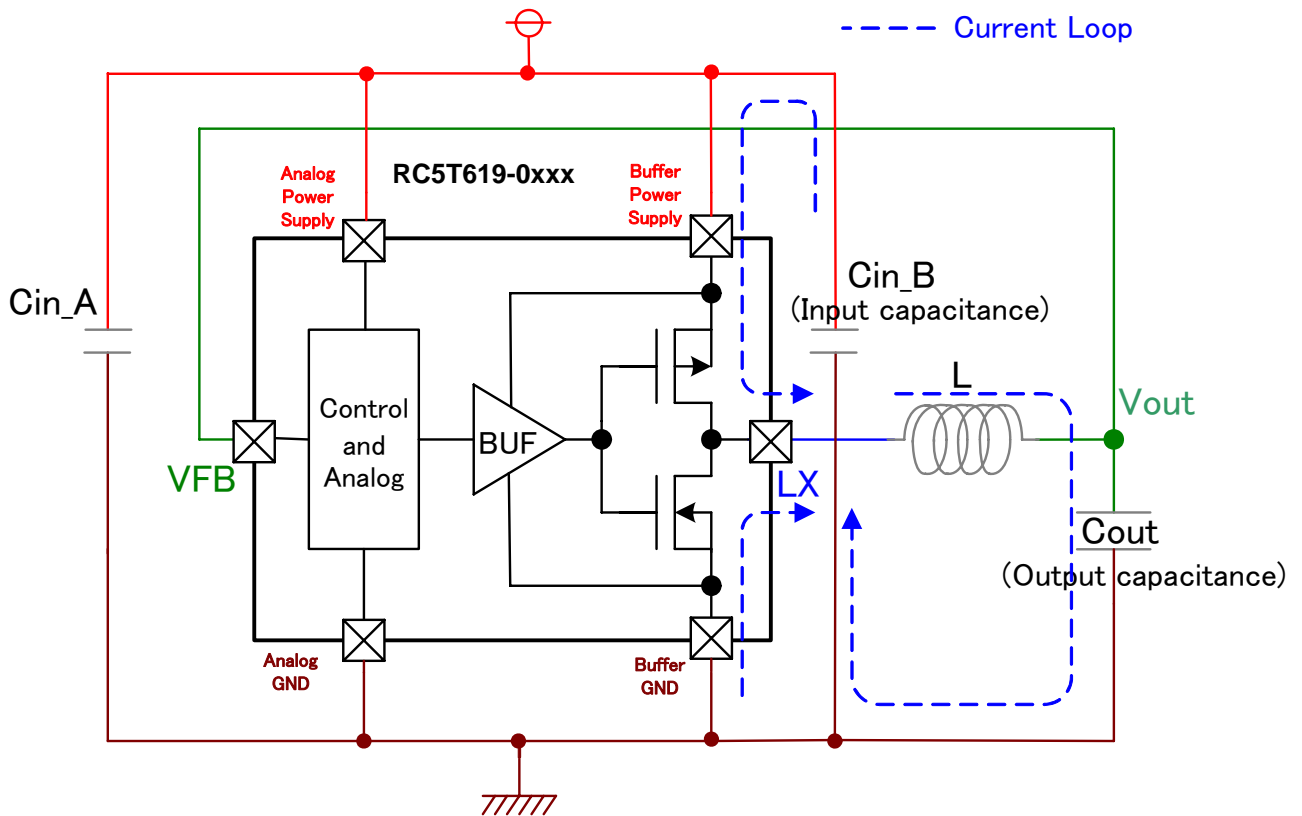
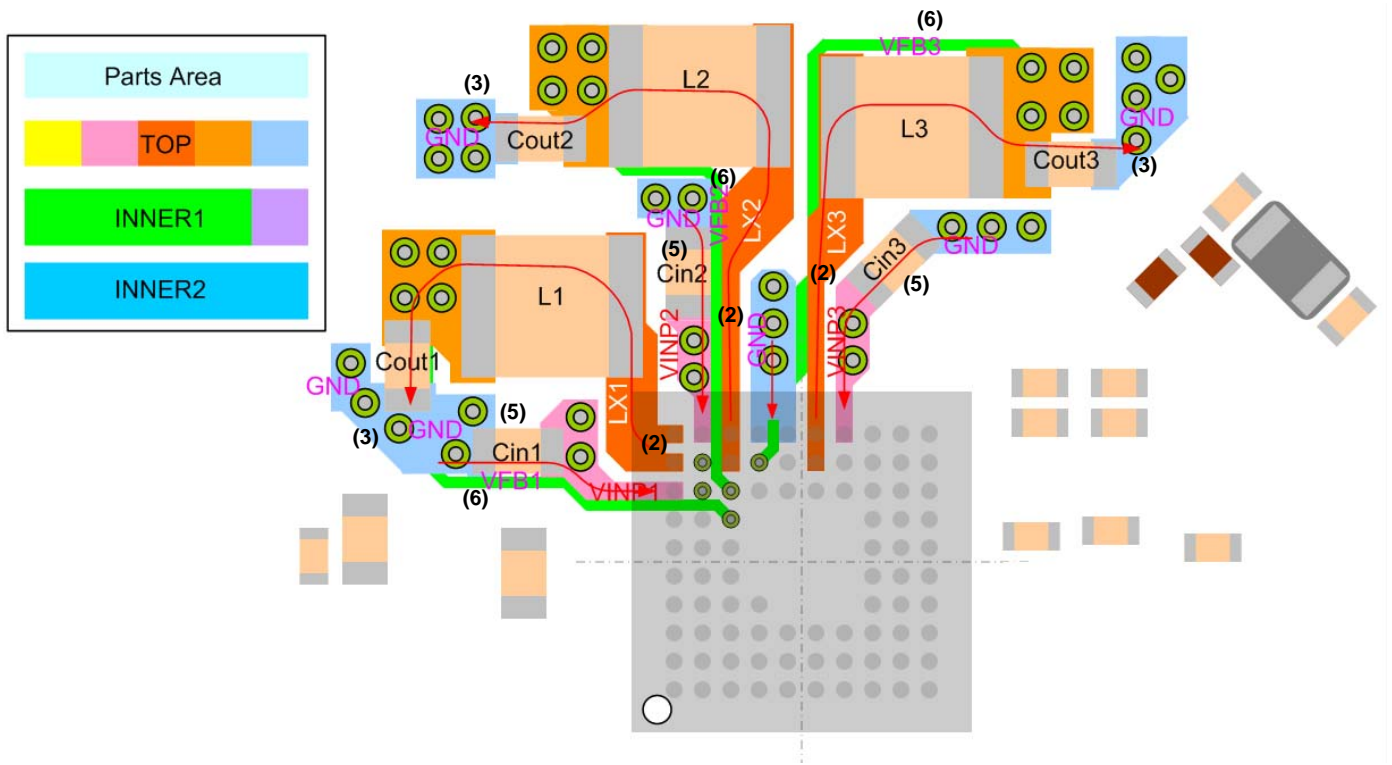

Fig. 1-1: Simplified Schematic for DCDC1, DCDC2, DCDC3, DCDC4 and DCDC5
Fig. 1-2: Example of DCDC Block Board Pattern
- (1) Place the parts to minimize the switching current loop (Figure 1-1: blue line, Figure 1-2: red line).
- (2) Route the LX line as short and wide as possible between RC5T619-0xxx and an inductor, and prohibit adding other redundant lines on it.
- (3) Connect the ground line of “Cout” directly to the internal ground plane with multiple vias, in order to reduce impedance as small as possible. (Target: 50mΩ or less)
- (4) Pull out the output of DCDC from near not “L” but “Cout”.
- (5) Place “Cin” as close as possible to RC5T619-0xxx.